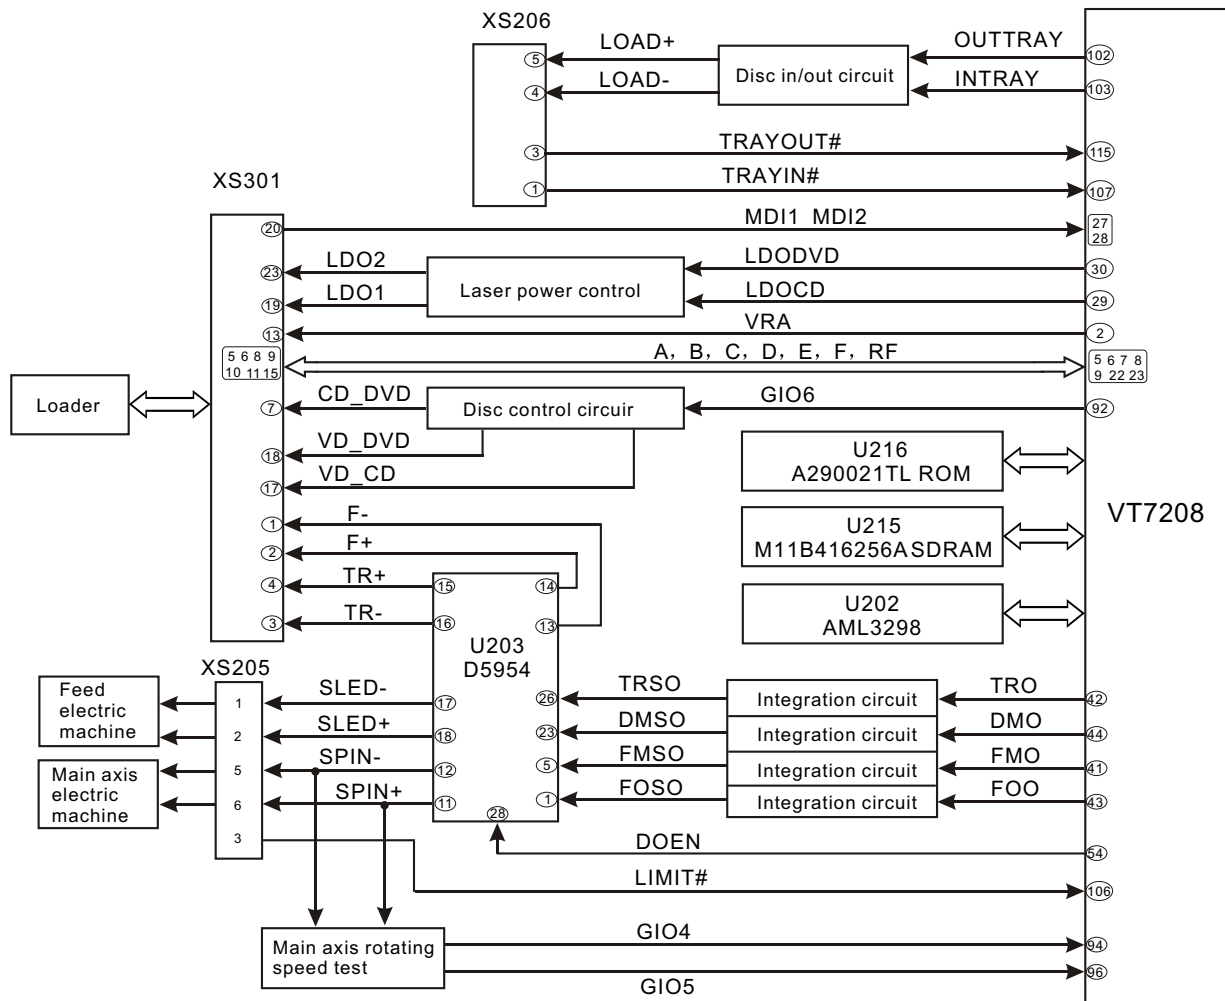

Figure 3.2.3.1 Servo circuit block diagram
1. DK1020S adopts SANYO 62 loader and VT7208+FLASH (16M) + SDRAM (64M). Its servo circuit is mainly composed of preposition signal processing, digital servo processing, digital signal processing IC Vt7208 and drive circuit D5954, shown as the following figure 3.2.3.1: